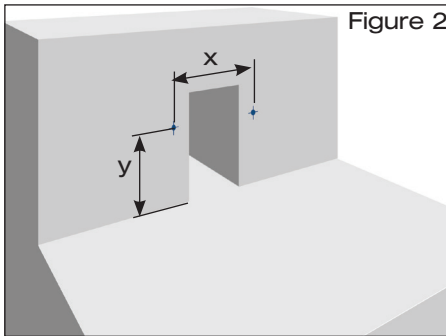

Figure 2
- 1.2 Make 10 mm diameter holes for the sliding flange with the connecting sleeve for connecting the vapour barrier according to the details specified in Table 2 (Fig. 2).